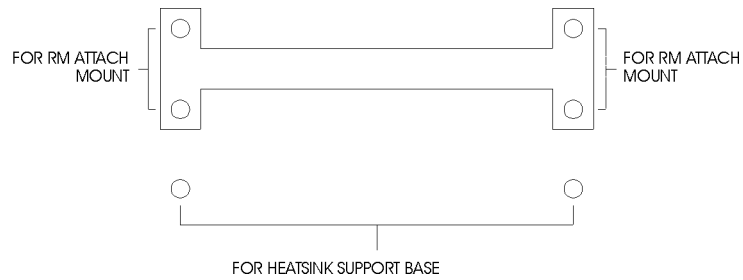

Fig. 15
- a) Refer to Fig. 15, install the Heatsink Support Base onto the motherboard, insert the two plastic nail to the hole in the Heatsink Support Base as following diagram: